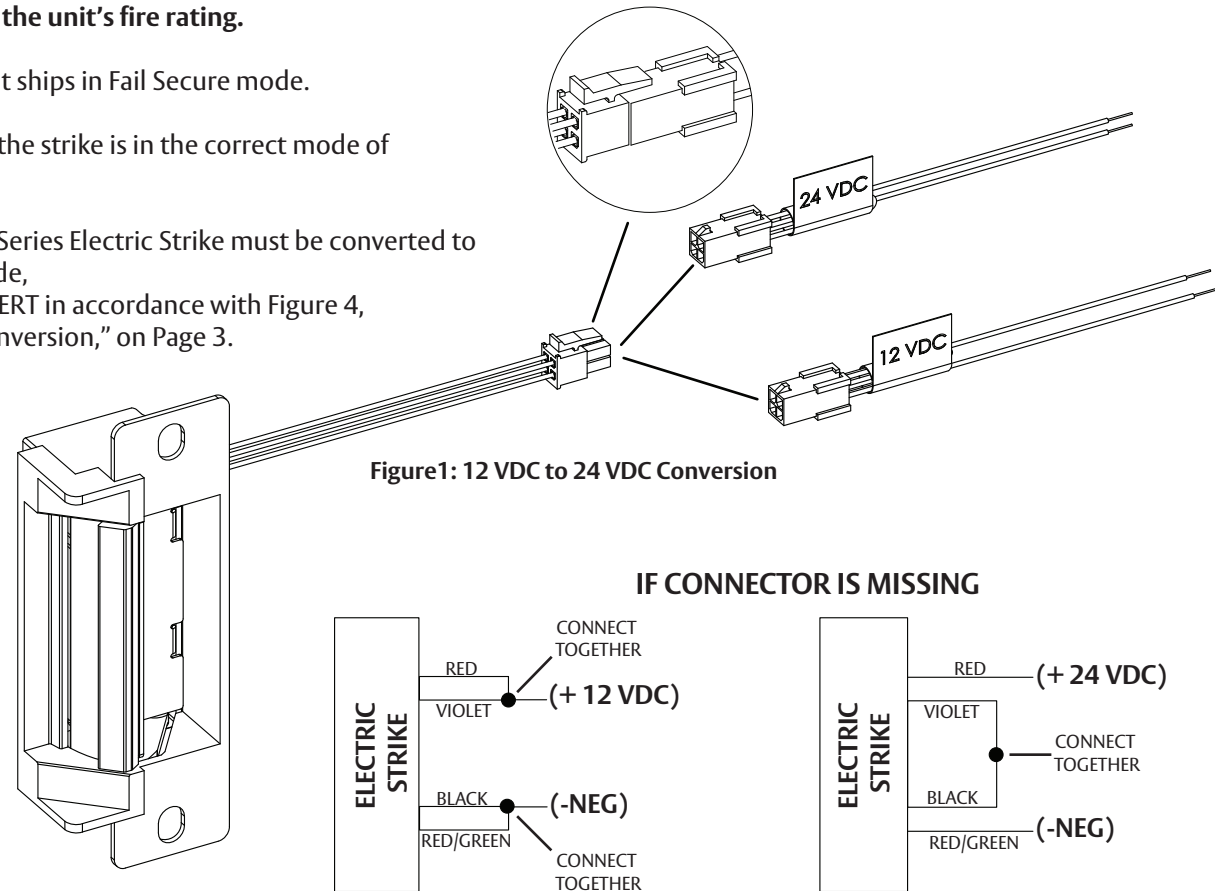

Figure 1: 12 VDC to 24 VDC Conversion
1. SELECT the appropriate plug in connector that matches system power and electrically CONNECT as shown in Figure 1, "12 VDC to 24 VDC Conversion."